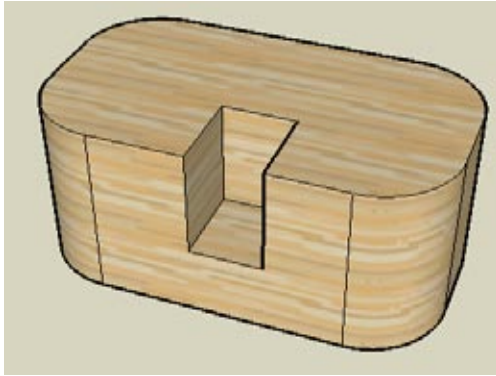

Figure 4-4
2. Draw a rectangle on the top or front face and push the rectangle inward, making a small notch (Figure 4-4).